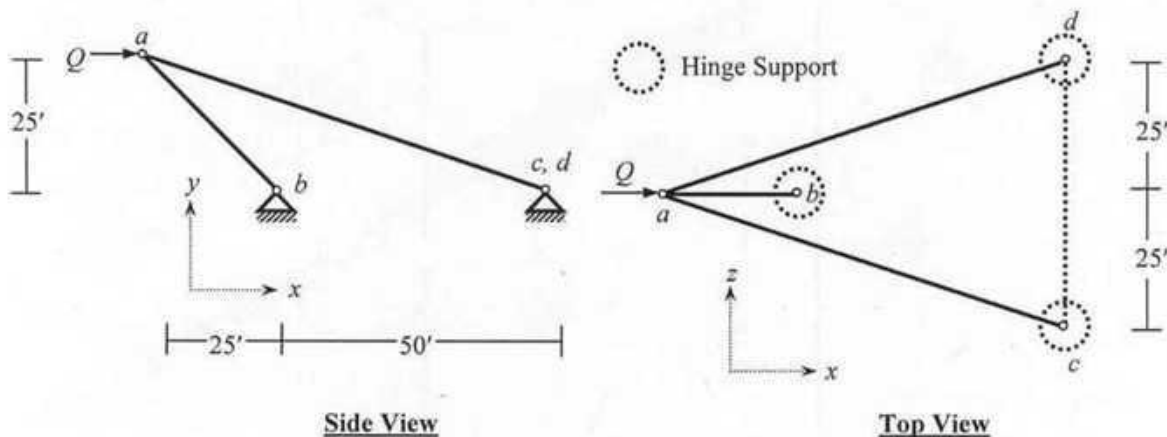

Fig. 11
13. For the space truss loaded as shown in Fig. 11